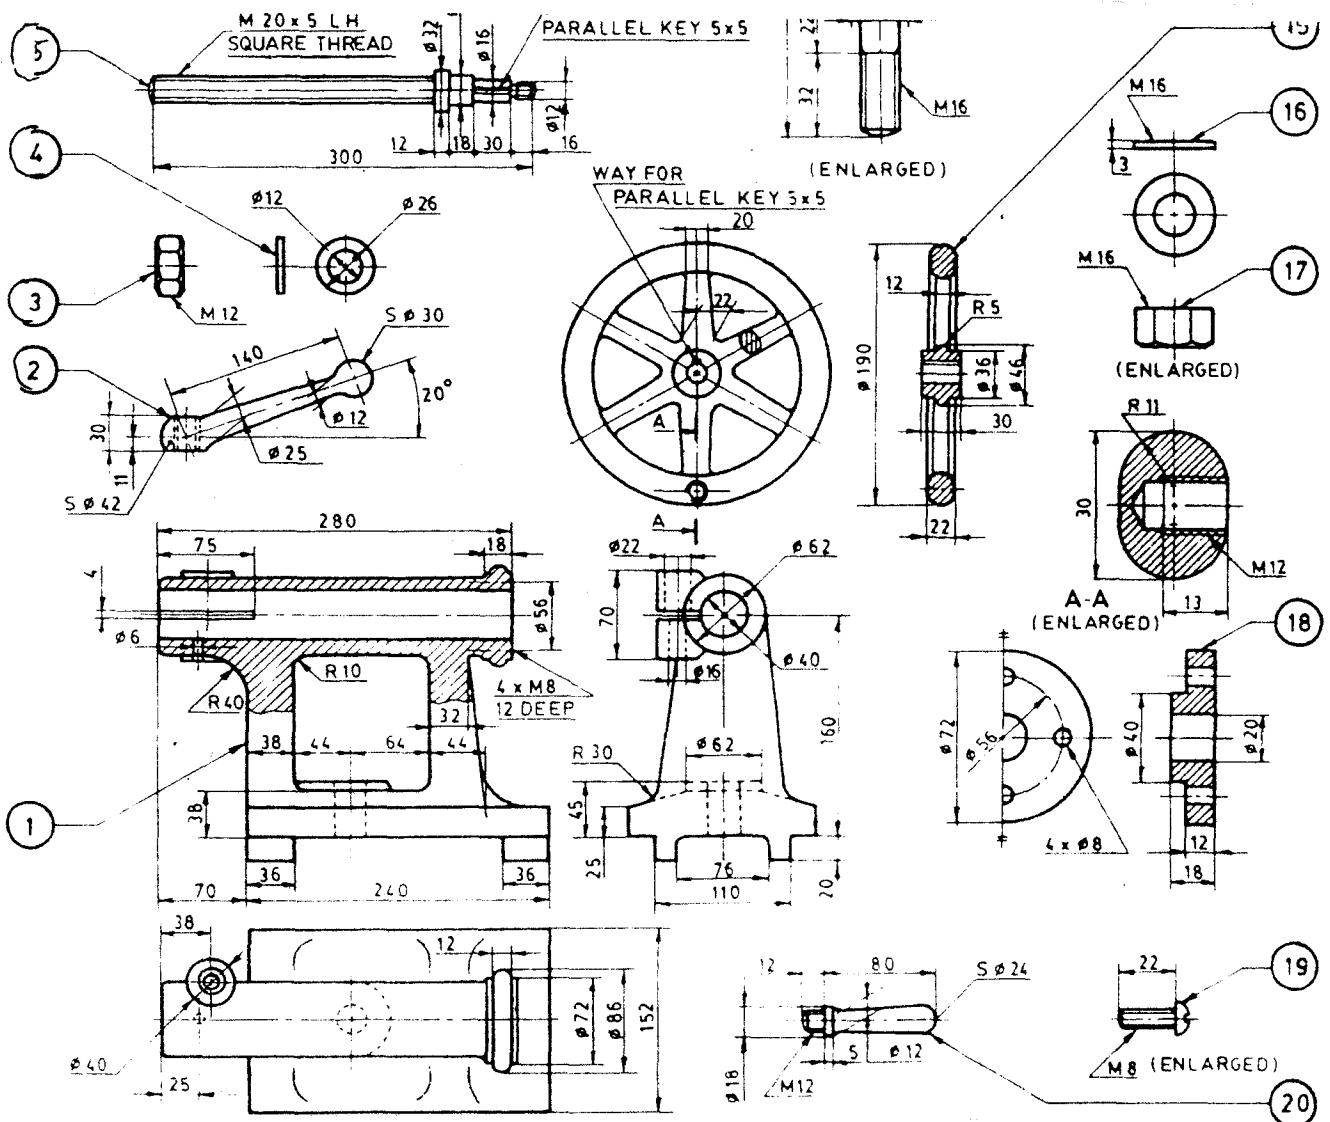

Figure 4 Tail Stock Parts
- VI. Fig.4 shows the details of a Lathe tailstock. Assemble the parts and draw : (40)